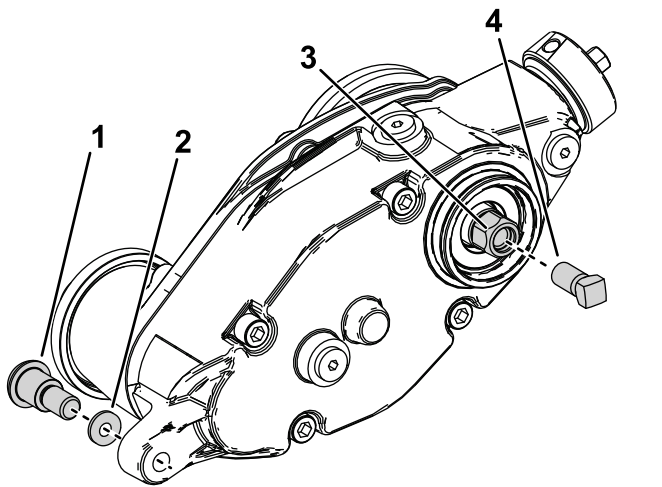

Figure 34
2. Remove the clamp bolts connecting the groomer to the drive box (Figure 34).
3. Remove the shoulder bolt and hardened washer connecting the groomer drive box to the adjuster arm (Figure 34).
5. Install the reinforcement screw (Part No. 1-803022—sold separately) to the internal threads of the groomer drive hex head and torque to 13.5 N·m (120 in-lb) as shown in Figure 34.
6. Remove the groomer drive box from the cutting reel by turning the groomer drive hex-head (Figure 34).